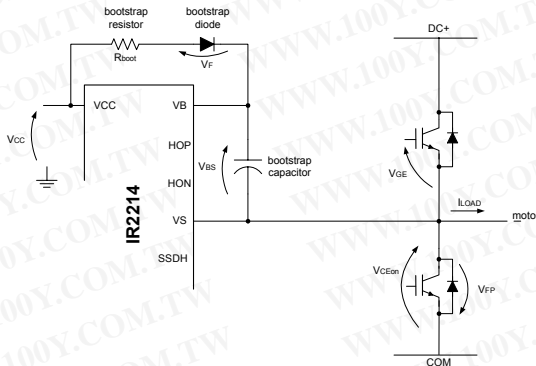

Figure 19: Bootstrap Supply Schematic
In the high side circuit, the de-saturation biasing current may become relevant for dimensioning the bootstrap capacitor (see Fig. 19). In fact, a pull up resistor with a low resistance may result in a high current the significantly discharges the bootstrap capacitor. For that reason, the typical pull up resistor value is on the order of 100 k $\Omega$ . This is the value of the internal pull up.
The  $V_{BS}$  voltage provides the supply to the high side driver circuitry of the gate driver. This supply sits on top of the  $V_S$  voltage and so it must be floating. The bootstrap method is used to generate the  $V_{BS}$  supply and can be used with any of the IR21141, IR22141 drivers. The bootstrap supply is formed by a diode and a capacitor as connected in Fig. 19.
**Voltage Ripple:** There are three different cases to consider (refer to Fig. 19).
**Bootstrap Resistor:** A resistor ( $R_{boot}$ ) is placed in series with the bootstrap diode (see Fig. 19) in order to limit the current when the bootstrap capacitor is initially charged. We suggest not exceeding  $10\ \Omega$  to avoid increasing the  $V_{BS}$  time-constant. The minimum on time for charging the bootstrap capacitor or for refreshing its charge must be verified against this time-constant.